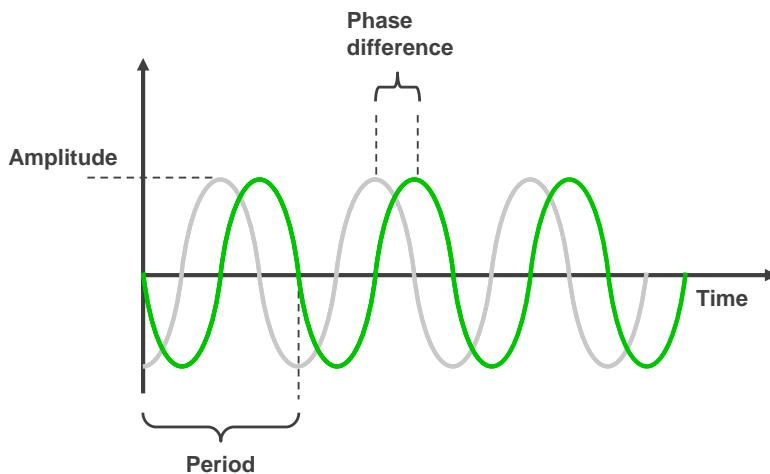

Figure 186. Sine wave
Wireless telecommunication systems transfer data by modulating the data on top of a radio wave. The data stream “piggybacks” on a carrier wave at a certain chosen frequency. Modulating the carrier wave causes also changes in the frequency of the wave. In general, the more data is carried on top of the carrier wave, the more **bandwidth** (BW) the transmission requires. Today's communication systems generate very complex radio wave signals to maximize throughput in a bandwidth limited communication channel. In other words, spectral efficiency needs to be high. To understand the radio communication it is best to analyze the most basic form of a radio signal, the sine wave. Figure 186 illustrates two sine waves.
Thirdly, the wave has an offset from a specified reference point in time, known as the **phase** of the wave. As the phase of a signal changes the entire waveform is moved on the time axis. In Figure 186 there are two sine waves that are identical in all other aspects, except having a different phase. Phase is usually represented as degrees or radians. 360° degrees (2π radians) equals to moving the waveform a full period in time, so that the wave moves back to its starting position.
A signal sent by an ideal transmitter and received by an ideal receiver would have all constellation points precisely at the ideal locations, as shown in the left side picture of Figure 186. However, the addition of AWGN causes the actual constellation points to deviate from their ideal locations, as shown in the right side picture of Figure 198. If the constellation points deviate too far from their ideal locations they are interpreted incorrectly, causing bit errors in reception.